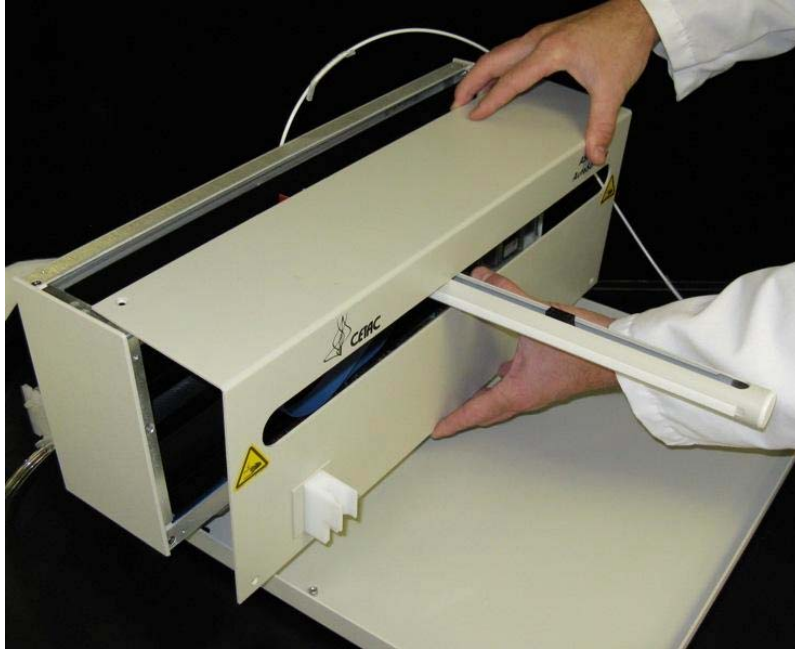

Figure 1-8. View of ASX-520 Auto Sampler with the front cover being removed.
7. The front cover can be removed by lifting it slightly and pulling forward. See Figure 1-8.